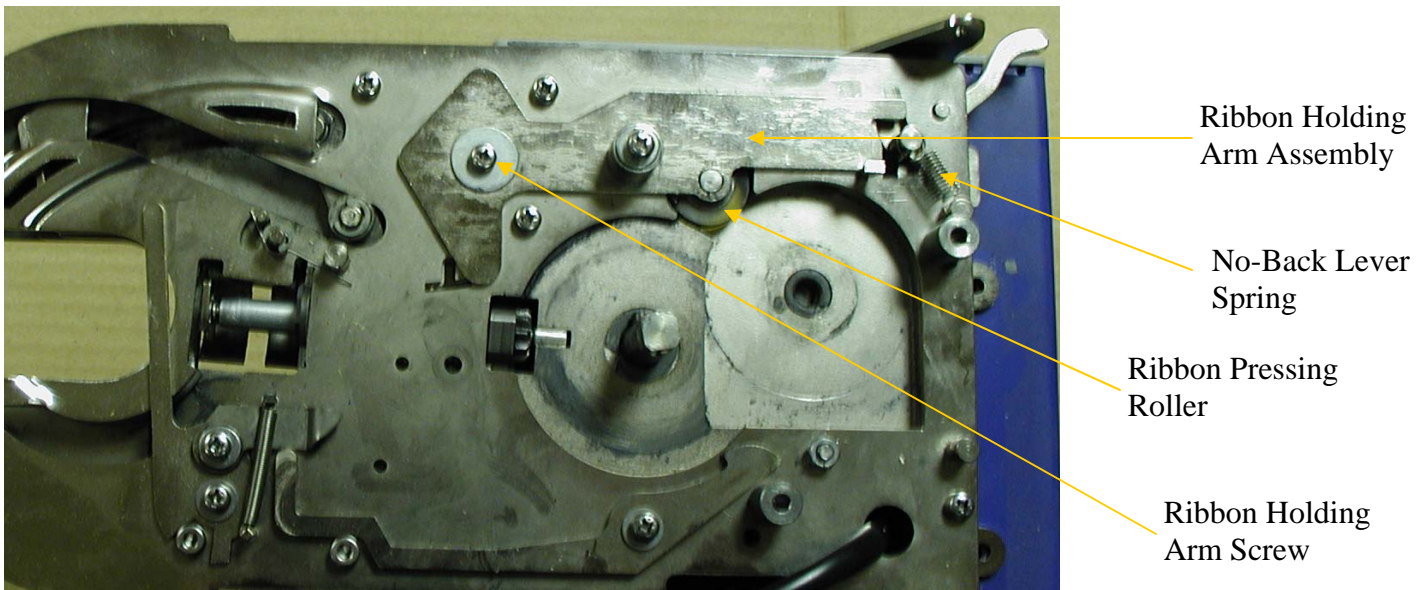

Figure 13
- 6) Locate the No-Back Lever Spring and remove. See Figure 13.
- 7) Locate the Ribbon Holding Arm Assembly and the Ribbon Holding Arm Screw. Loosen the Ribbon Holding Arm Screw. See Figure 13.
**Figure 13 and Section 5 continued on the next page.**